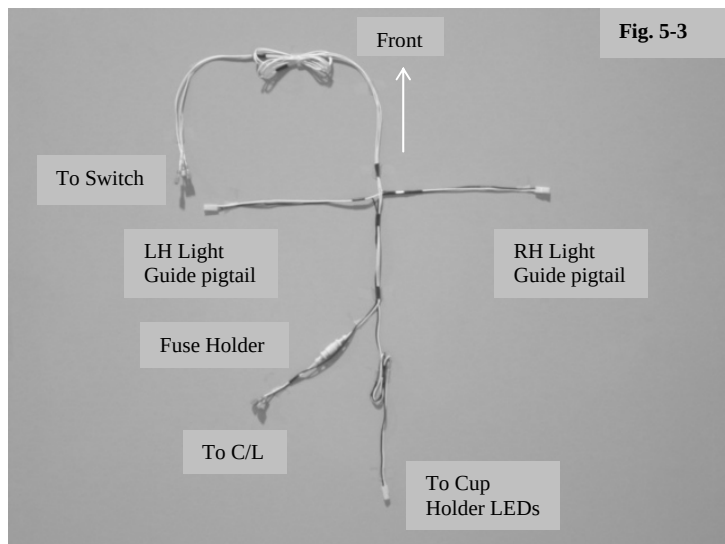

Fig. 5-3
- (b) Route the wires. (Fig. 5-3)